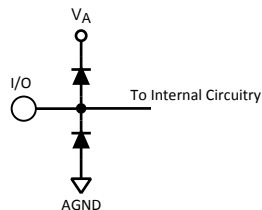

Figure 2.
- (1) The inputs are protected as shown below. Input voltage magnitudes above V_A or below GND will not damage this device, provided current is limited per Note 4 of the Absolute Maximum Ratings Table. However, errors in the A/D conversion can occur if the input goes above V_A or below GND by more than 100 mV. As an example, if V_A is +3.3V, the full-scale input voltage must be $\leq +3.4V$ to ensure accurate conversions. See Figure 2.
- (2) To ensure accuracy, it is required that $|V_A - V_D| \leq 100\text{ mV}$ and separate bypass capacitors are used at each power supply pin.
- (3) With the test condition for $V_{REF} = +1.0V$ (2V_{P-P} differential input), the 12-bit LSB is 488 μV .
- (4) Typical figures are at $T_J = 25^\circ\text{C}$, and represent most likely parametric norms. Test limits are ensured to TI's AOQL (Average Outgoing Quality Level).
- (5) I_{DR} is the current consumed by the switching of the output drivers and is primarily determined by load capacitance on the output pins, the supply voltage, V_{DR} , and the rate at which the outputs are switching (which is signal dependent). $I_{DR} = V_{DR}(C_0 \times f_0 + C_1 \times f_1 + \dots + C_{11} \times f_{11})$ where V_{DR} is the output driver power supply voltage, C_n is total capacitance on the output pin, and f_n is the average frequency at which that pin is toggling.
- (6) Excludes I_{DR} . See DC and Logic Electrical Characteristics, Note 5.
- The inputs are protected as shown below. Input voltage magnitudes above V_A or below GND will not damage this device, provided current is limited per Note 4 of the Absolute Maximum Ratings Table. However, errors in the A/D conversion can occur if the input goes above V_A or below GND by more than 100 mV. As an example, if V_A is +3.3V, the full-scale input voltage must be $\leq +3.4V$ to ensure accurate conversions. See Figure 2.